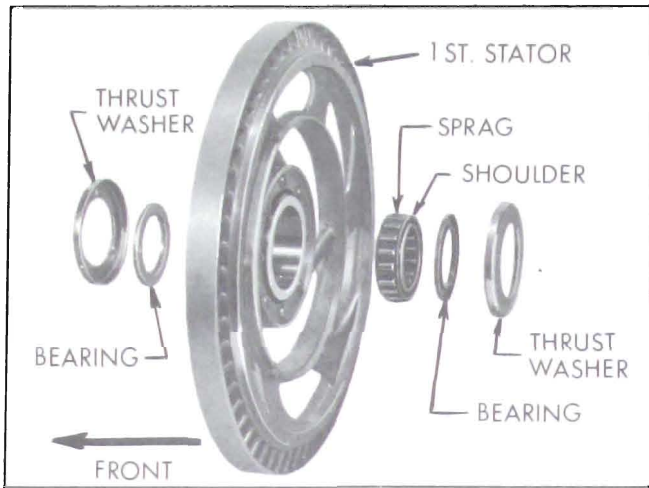

Figure 5-46—First Stator Parts
4. Pry off the cupped thrust washers and remove the first stator bearings and sprag assembly. See Figure 5-46.
11. Lay first stator on bench with thick edge of blades up. Refer to Figure 5-46, then place first stator sprag in hub of first stator with shoulder up. Install one bronze bearing and one cupped thrust washer on each side of sprag.